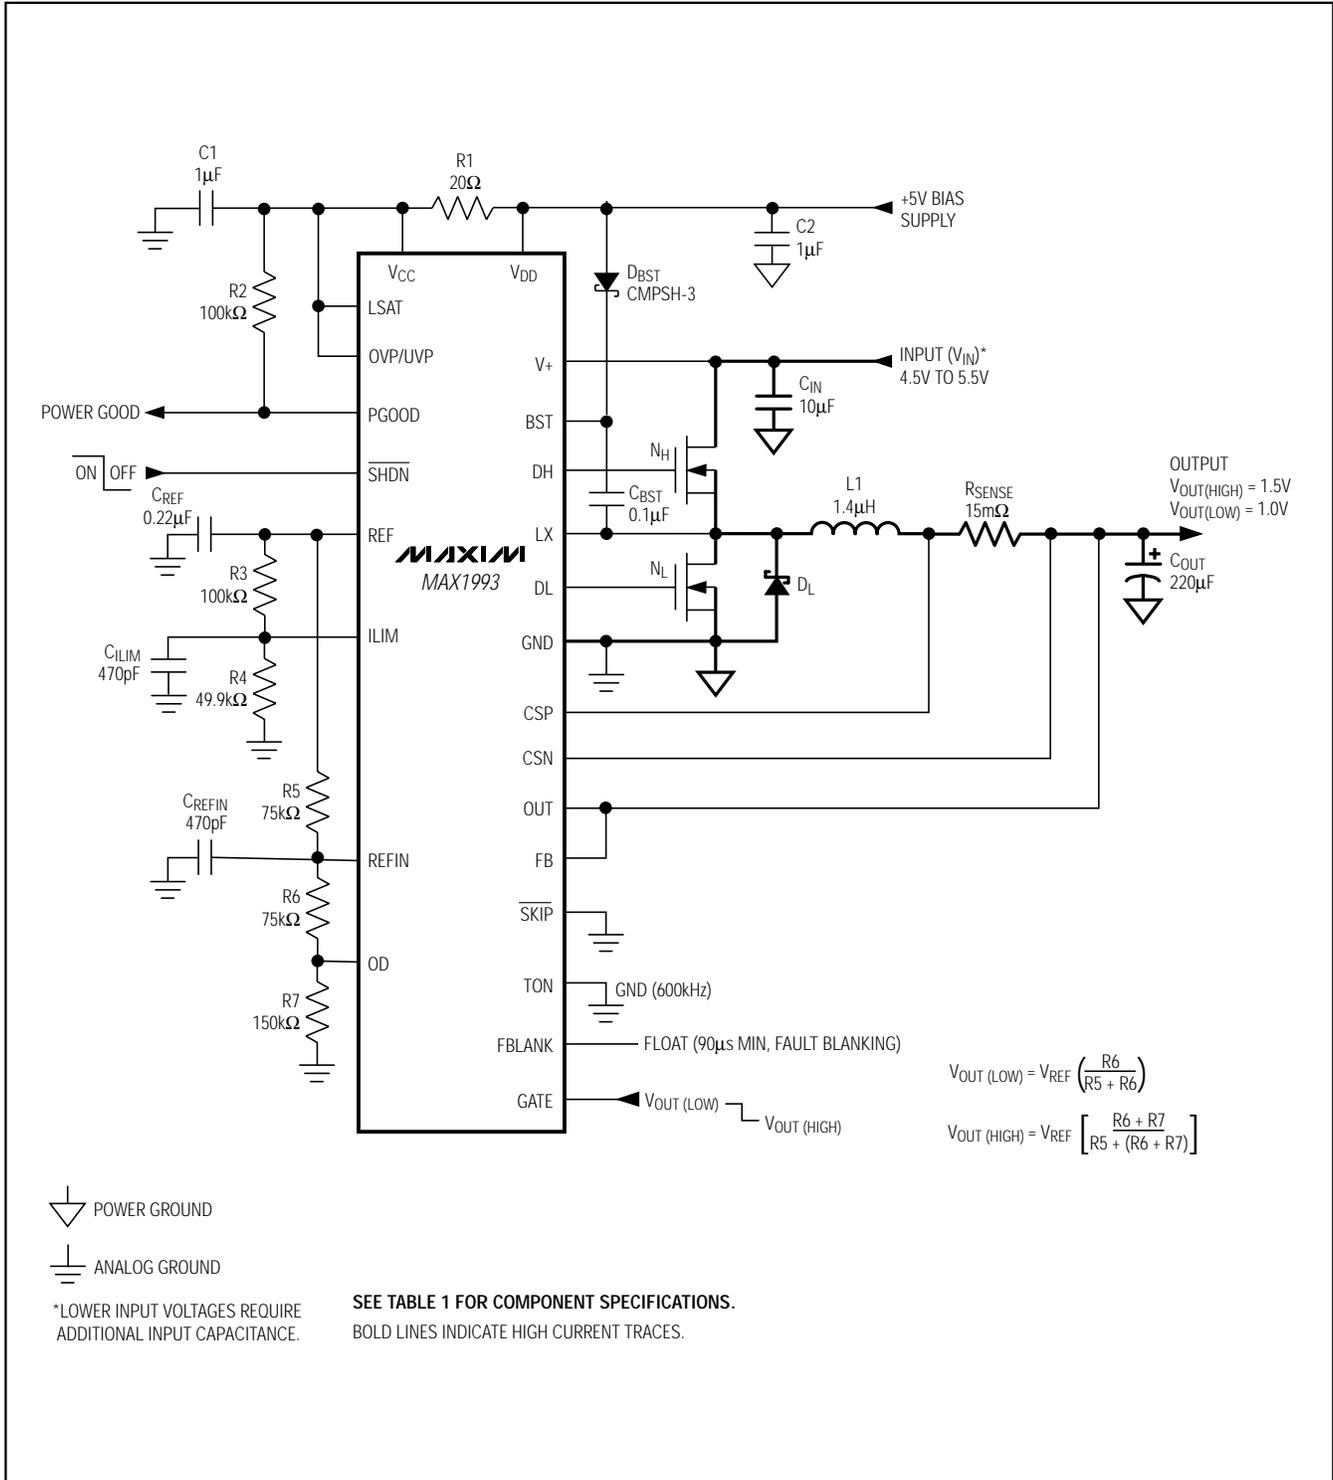

Figure 9. MAX1993 Standard Application Circuit
The MAX1993 regulates FB to the voltage set at REF_{IN}. By changing the voltage at REF_{IN}, the MAX1993 can be used in applications that require dynamic output voltage changes between two set points. Figure 9 shows a dynamically adjustable resistive voltage-divider network at REF_{IN}. Using the GATE signal and open-drain output (OD), a resistor can be switched in and out of the REF_{IN} resistor-divider, changing the voltage at REF_{IN}. A logic high on GATE turns on the internal N-channel MOSFET, forcing OD to a low-impedance state. A logic low on GATE disables the N-channel MOSFET, so OD is high impedance. The two output voltages ($FB = OUT$) are determined by the following equations:
Adding a capacitor across REF_{IN} and GND filters noise and controls the rate-of-change of the REF_{IN} voltage during dynamic transitions. With the additional capacitance, the REF_{IN} voltage slews between the two set points with a time constant determined by the equivalent parallel resistance seen by the slew capacitor (C_{REFIN}). Referring to Figure 9, the time constant for a positive REF_{IN} voltage transition is: